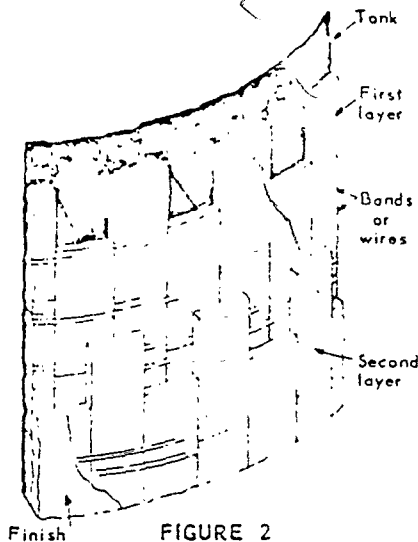

FIGURE 2
3.3 Double-layer Construction. The first or inner layer of curved block, or segmental block insulation shall be applied with joints tightly butted and lateral joints staggered. Bands (see Table 1) shall be placed over blocks approximately 1 inch from each end of each block, thus providing four bands for each 36-inch length of insulation. The second or outer layer shall be applied so that all joints are staggered with the first layer and tightly butted together. Bands shall be placed over second layer of block approximately 1 inch from each end of each block, thus providing four bands for each 36-inch length of insulation. All chipped edges, cracks or imperfections shall be filled and smoothed with Insulation Cement, Code 502. See Figure 2.